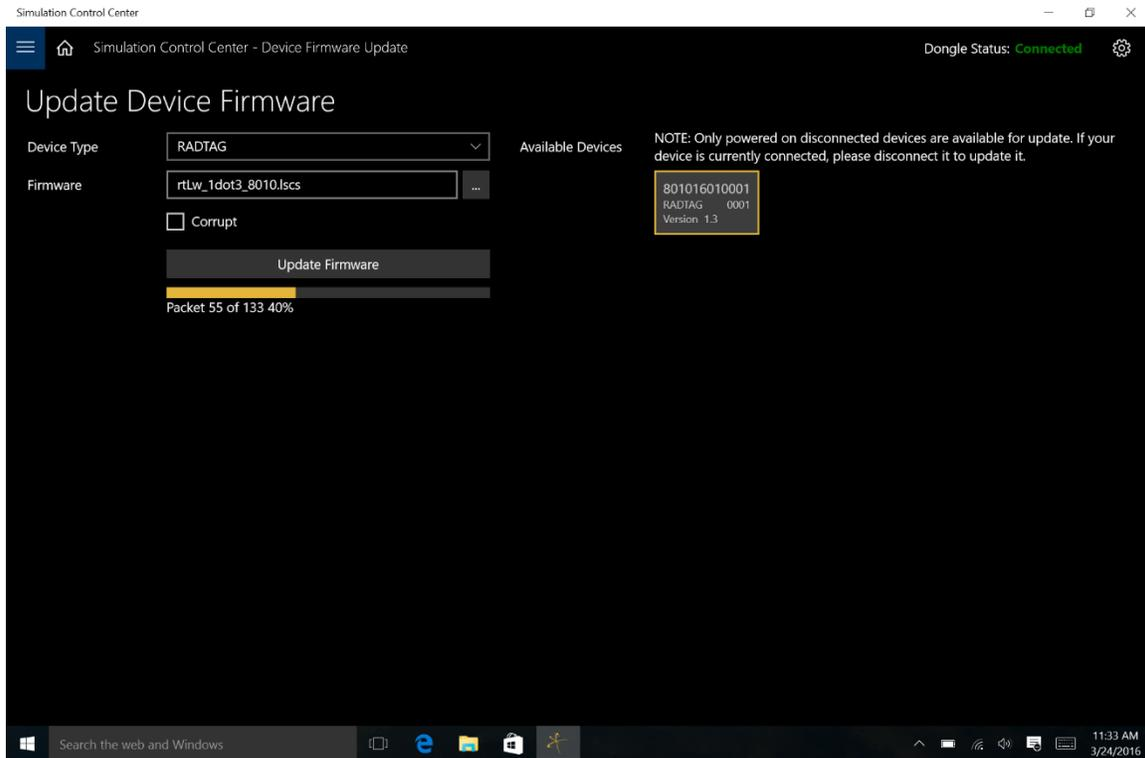

FIGURE 9 FIRMWARE UPDATE
5. Click the Update Firmware button to begin loading the firmware on the Device (see Figure 9)